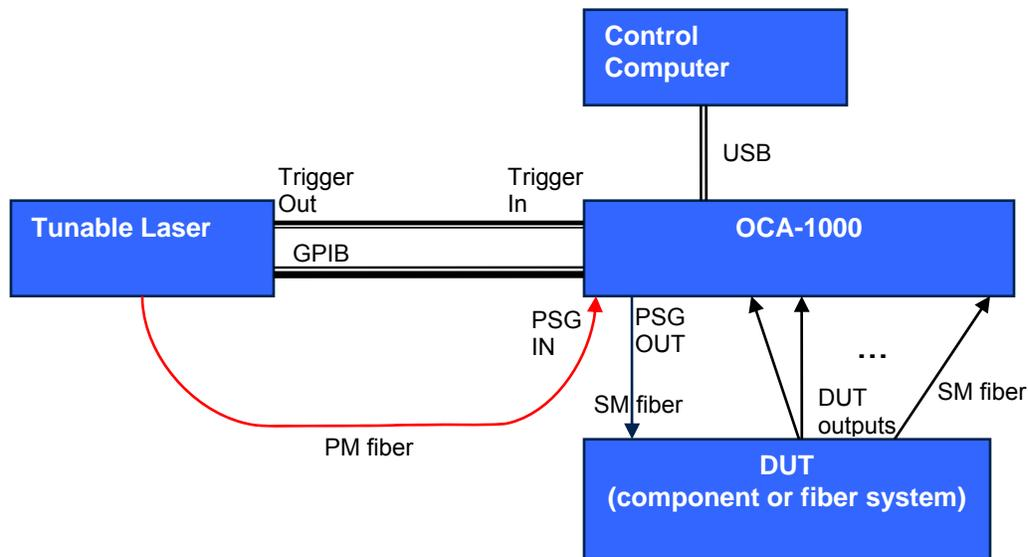

Figure 4 Setup diagram for PDL/IL measurement
2. If using an external laser for PDL or swept measurement, connect the external laser as shown in Figure 4.